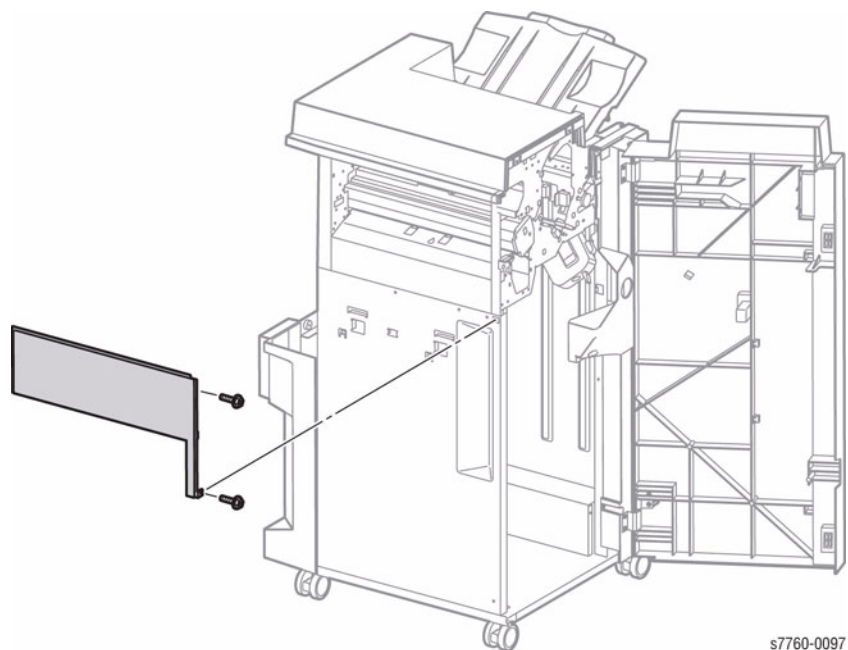

Figure 1 Removing Left Top Cover
3. Slide the Left Top Cover to the front to remove (Figure 1).